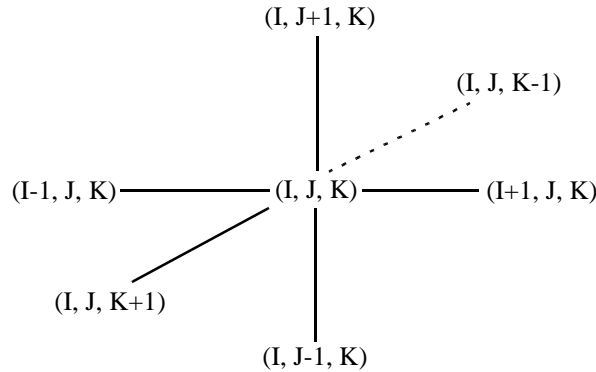

Figure 4-8. IJK-ordered data point neighbors.
4.3.1.3. IJK-Ordered Data Points. The data points for 3-D volume field plots are usually organized in a three-parameter mesh. Each point is addressable by a set of three parameters (I , J , and K) and has six neighboring data points (except at the boundaries). These neighbors are located above, below, left, right, in front of, and behind the data point as shown in Figure 4-8.